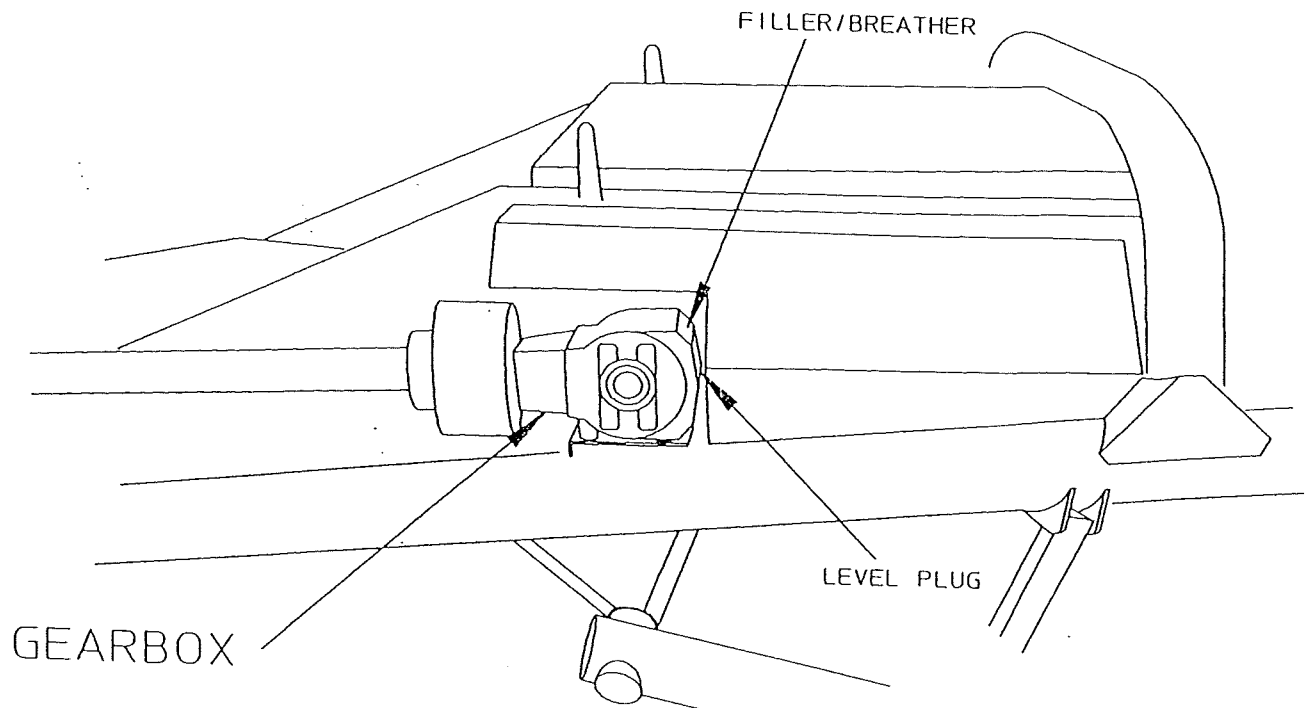

Fig 10.3
5. Check level of oil in gearbox (Fig 10.3), if necessary top up with gear oil.